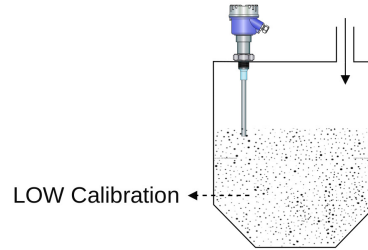

Figure 16: Low Calibration
1. **Low Calibration** For Low Calibration, fill the tank with the application material such that it touches the tip of Casper's probe as shown in Figure 16 and follow the instructions given in the section Calibration for Non-conductive Material.